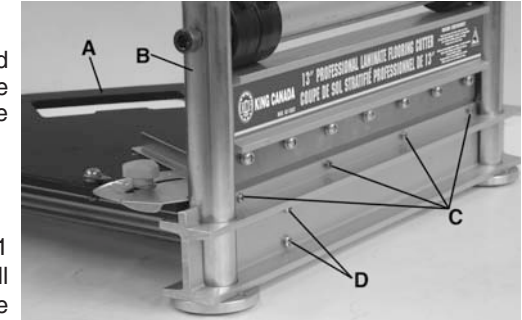

Figure 1
1. Assemble the table assembly (A) Fig.1 to the knife assembly (B) using 4 small Phillips head screws (C) to secure the top of the table. Use two larger pan head screws (D) to secure the table brace.